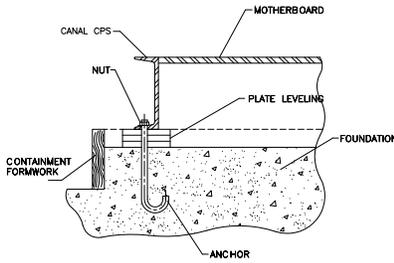

Figure 4
**Foundation:** a good foundation is made by pouring concrete in the location area of the base plate, the type of anchor is usually sleeve type, since this allows a movement of the basis for the final adjustment. In Fig. 4 and 5 two types of anchoring are shown: